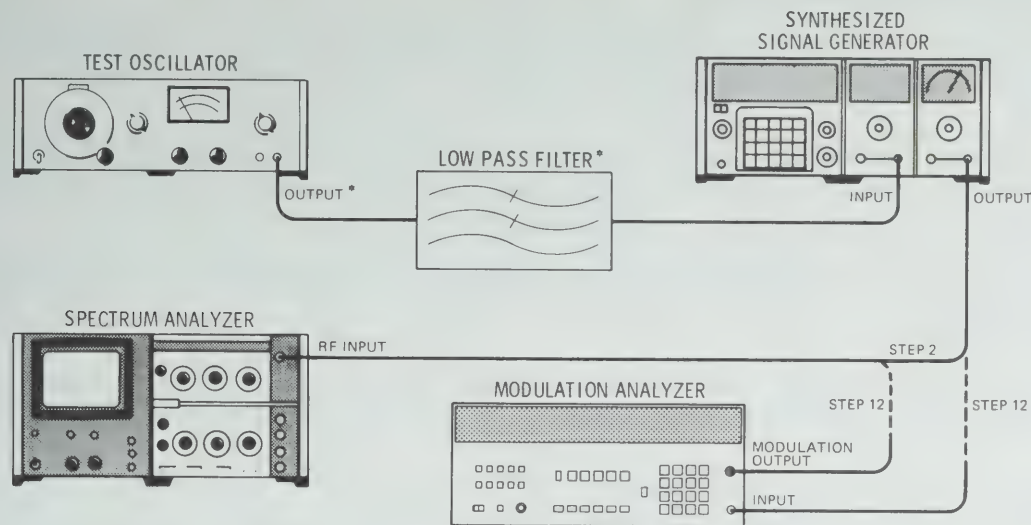

Figure 5-7A. Phase Modulation Level and Distortion Adjustment Test Setup
2. Connect the equipment as shown in Figure 5-7A. Connect the output of the signal generator directly to the spectrum analyzer RF input. Be sure to use the correct impedance test oscillator output and the correct low pass filter.
*In Figure 5-7A, the test oscillator output and low pass filter impedances are 50Ω when the modulation section being used is a Model 86634A and 600Ω when used with an 86635A.
12. Refer to Figure 5-7A and connect the signal generator output to the Modulation Analyzer input. Connect the Modulation Analyzer MODULATION OUTPUT to the spectrum analyzer RF input.